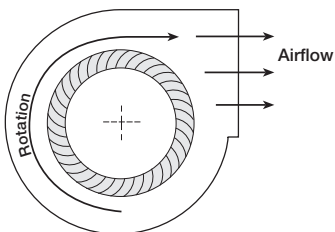

Figure 12
4. Hand rotate the blower to ensure that the wheel is not rubbing against the scroll. If the blower is rotating in the wrong direction, the unit will move some air but not perform properly. To check the rotation, open the blower access panel, which is labeled either supply or exhaust, and run the blower momentarily to determine the rotation. See Figure 12.